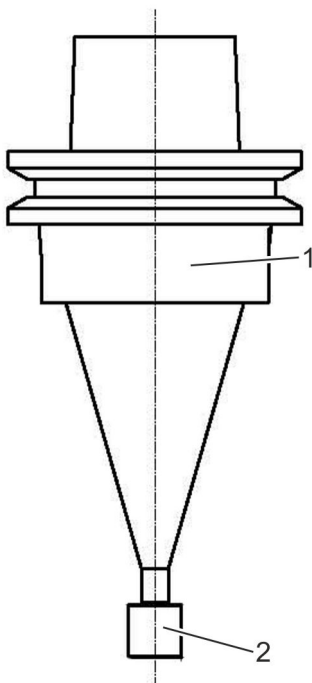

Fig. 60: Calibration tool
2. ➤ Remove the calibration tool (Fig. 60/1) from the tool magazine Fig. 60.
3. ➤ Clean the cylinder of the calibration tool (Fig. 60/2) with a cleaning cloth and non-re-greasing cleaning agent.
4. ➤ Precisely dab the cylinder of the calibration tool (Fig. 60/2) with model cleaning product.